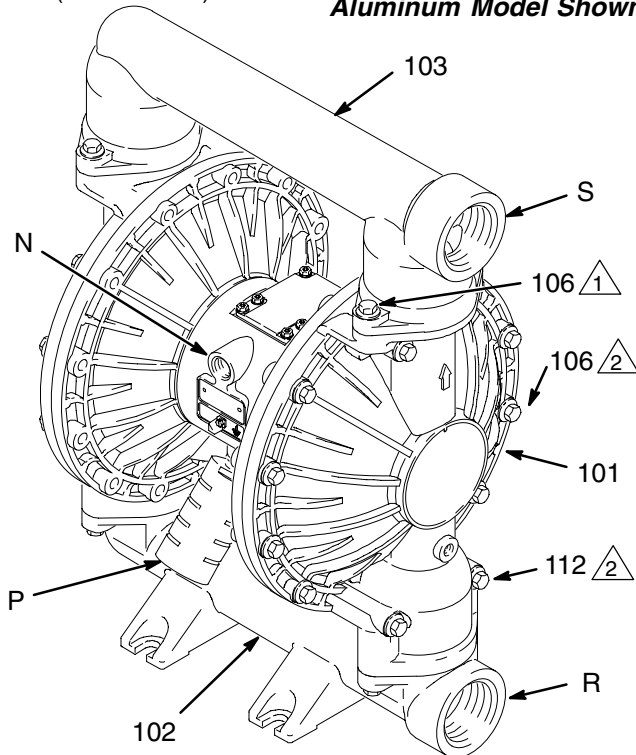

Fig. 3
- The pump is very heavy. If it must be moved, have two people lift the pump by grasping the outlet manifold (103) securely. See Fig. 3 on page 7.
The pump is shipped with the fluid inlet (R) and outlet (S) ports facing the same direction. See Fig. 3. To change the orientation of the inlet and/or outlet port:
1. Remove the screws (106) holding the inlet (102) and/or outlet (103) manifold to the covers (101).